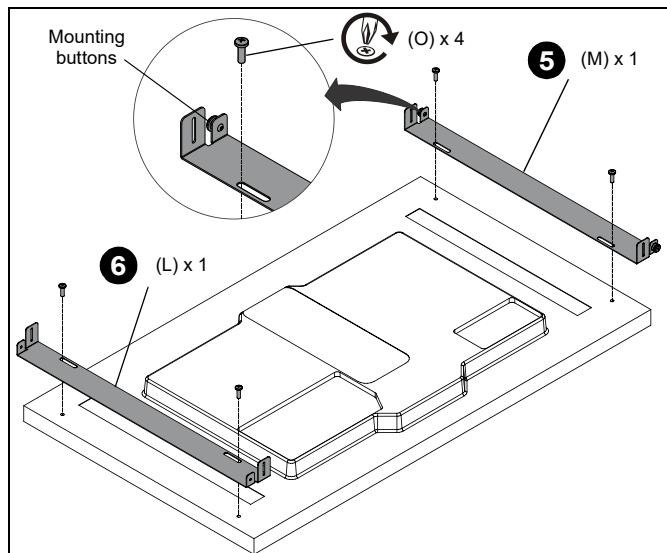

**Figure 6**
3. Insert a flat washer (U) onto the ends of four screw anchors (V) and insert into the four holes in floor.
4. Slide two washer plates (F) around the exposed bases of the screw anchors (V). (See Figure 6)
5. Tighten the screw anchors to 40 ft-lbs. (See Figure 6)